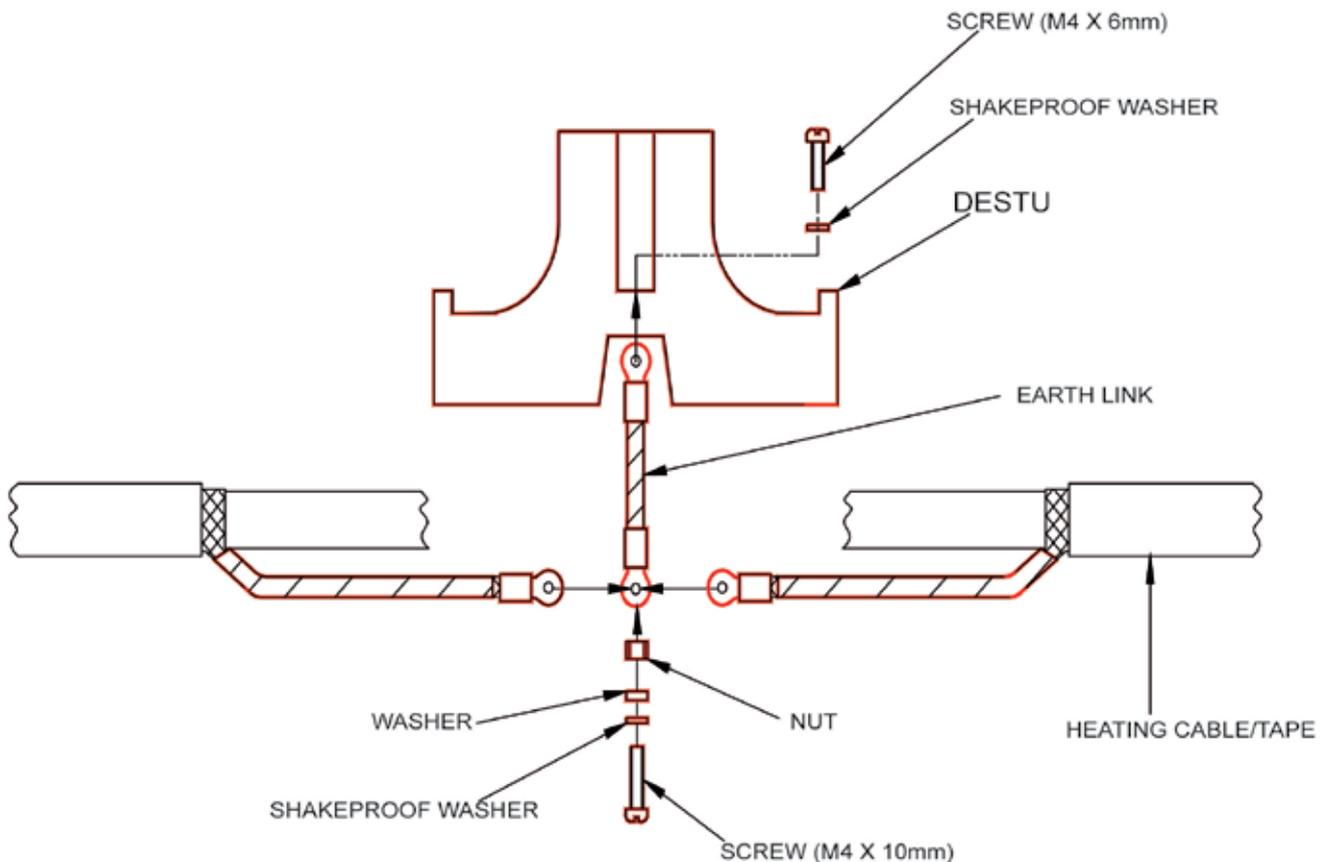

Fig 7
- Fasten the bottom half of the DESTU to the pipe using the PFS pipe fixing straps (ordered separately). On BRAIDED heaters, connect the ring crimps to the earth link and fasten to the DESTU using the smaller M4 x 6mm screw and shakeproof washers (see fig.7). Replace the top half of the DESTU and tighten the screws. Add the O-Ring and push the DESTU into the junction box. Cut the heating cable to a suitable length that will allow easy connection to the terminals (see figure 5 for example configuration).
7. WIDE HEATERS AND BRAIDED ONLY HEATERS - For these cables the braid remains outside the DESTU and attaches to the earth link located on the base of the DESTU. Trim the braid tail to a suitable length for fastening to the earth link. Place the green/yellow earth sleeves over each braid tail and trim 5mm (approx.), attaching the ring crimps to the remaining exposed braid as shown in figure 6 (on previous page) and figure 7 (below).